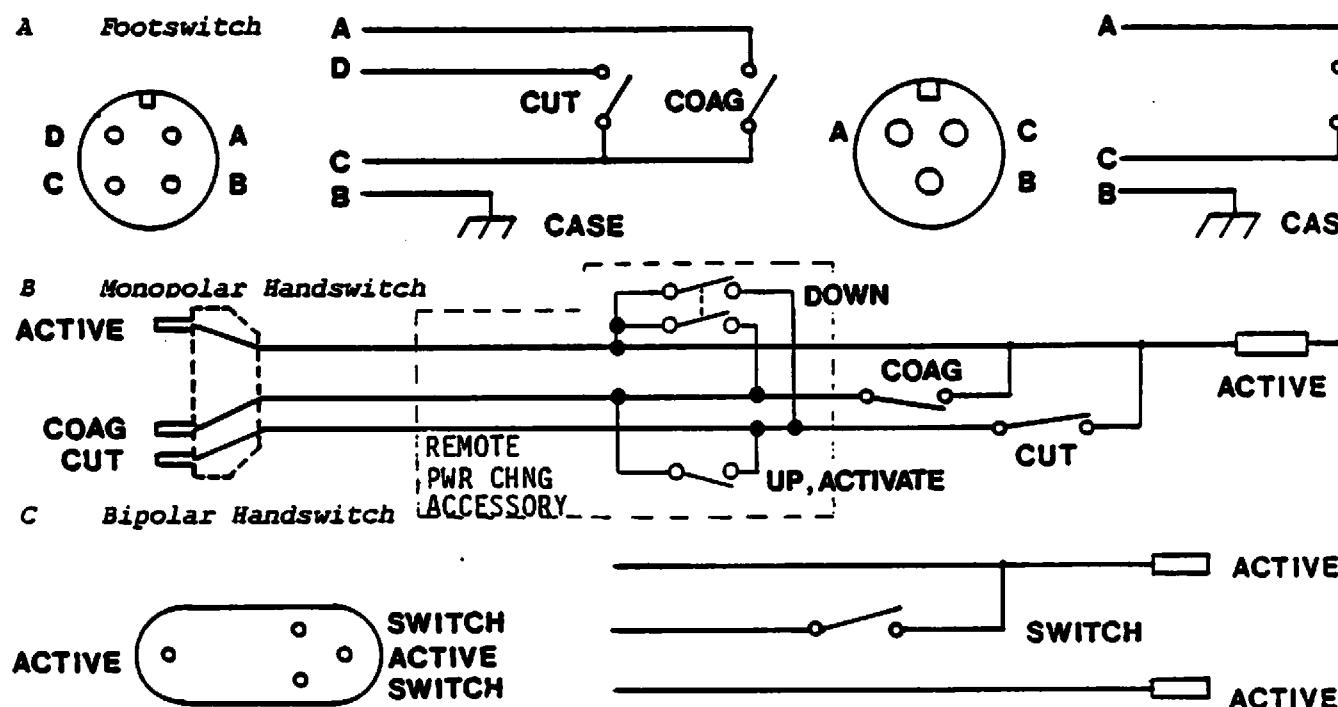

FIGURE 3
B. One of two COAG mode indicators is illuminated to show the COAG power waveform. Select by pushing one of the mode selector push buttons (15,16; Fig. 3)
This lamp will be illuminated and the audio will 'bong' once when the remote power change feature is activated at the handswitching accessory. When the lamp is on, remote power changes can occur. The lamp is turned off by switching to standby (1, Fig. 3).
## REAR PANEL CONTROLS AND CONNECTORS (SEE FIG. 3)
*This 4-pin MS-type receptacle accepts the two-treadle footswitch connector. The wiring diagram is shown in Fig. 3.A.*